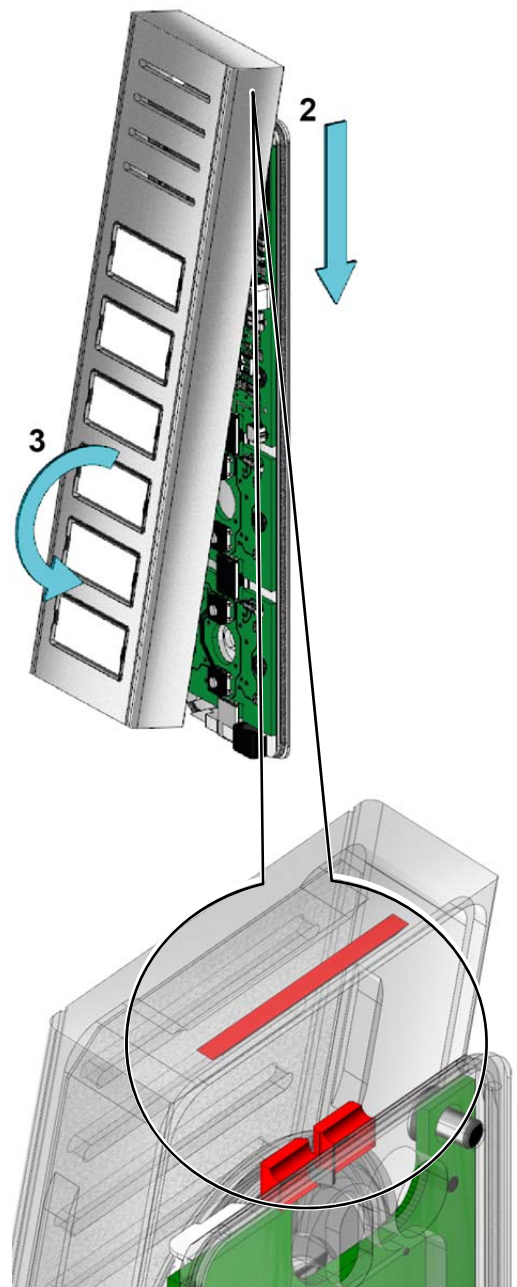

Fig. 7: Closing the device
- ▶ Put on the upper part of the housing (2) onto the rear panel (Fig. 7).
- ▶ Turn down the upper part of the housing onto the rear panel (3).